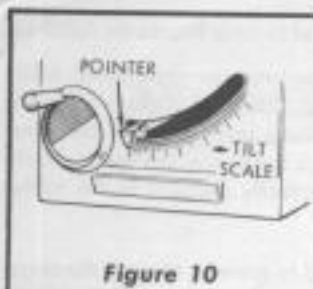
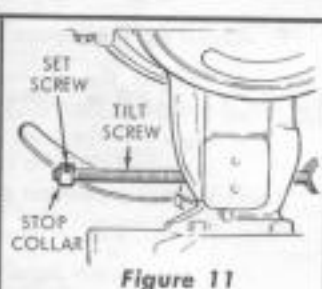

Figure 10
Figure 11
(7) When the blade is adjusted squarely with table top, check pointer on tilt gauge which should be positioned at exactly "0" (zero) degrees (see figure 10). If not, bend pointer carefully until it is at "0".
(8) Rotate the tilt hand wheel counterclockwise until it will turn no further. At this point, the acute angle made between saw blade and table top should be exactly 45 degrees.
(9) If the angle between blade and table top is not 45 degrees, rotate the tilt hand-wheel clockwise until pointer on tilt gauge indicates approximately 25 degrees. Loosen the two set screws in stop collar located on tilt screw farthest from tilt hand wheel and rotate the collar in direction required to stop the saw blade at exactly 45 degrees with table top. (See figure 11.) It may be necessary to make several trial adjustments in order to insure an exact 45 degree setting.